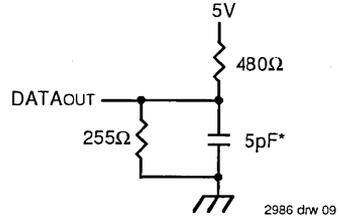

Figure 2. AC Test Load
4. Transition is measured $\pm 200mV$ from steady state voltage with specified loading in Figure 2.